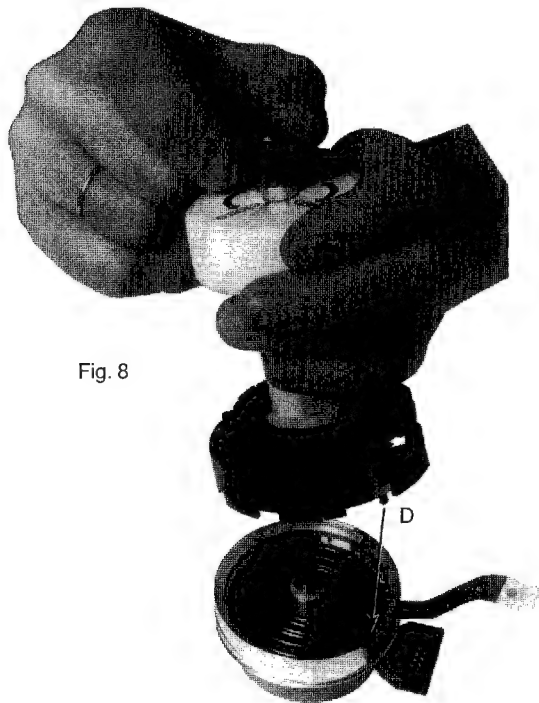

Fig. 8
- Position the head disc so that pin D of the protective cover engages in the hole of the stator (the arrow on the protective cover must point towards the scanner print). (Fig. 8)